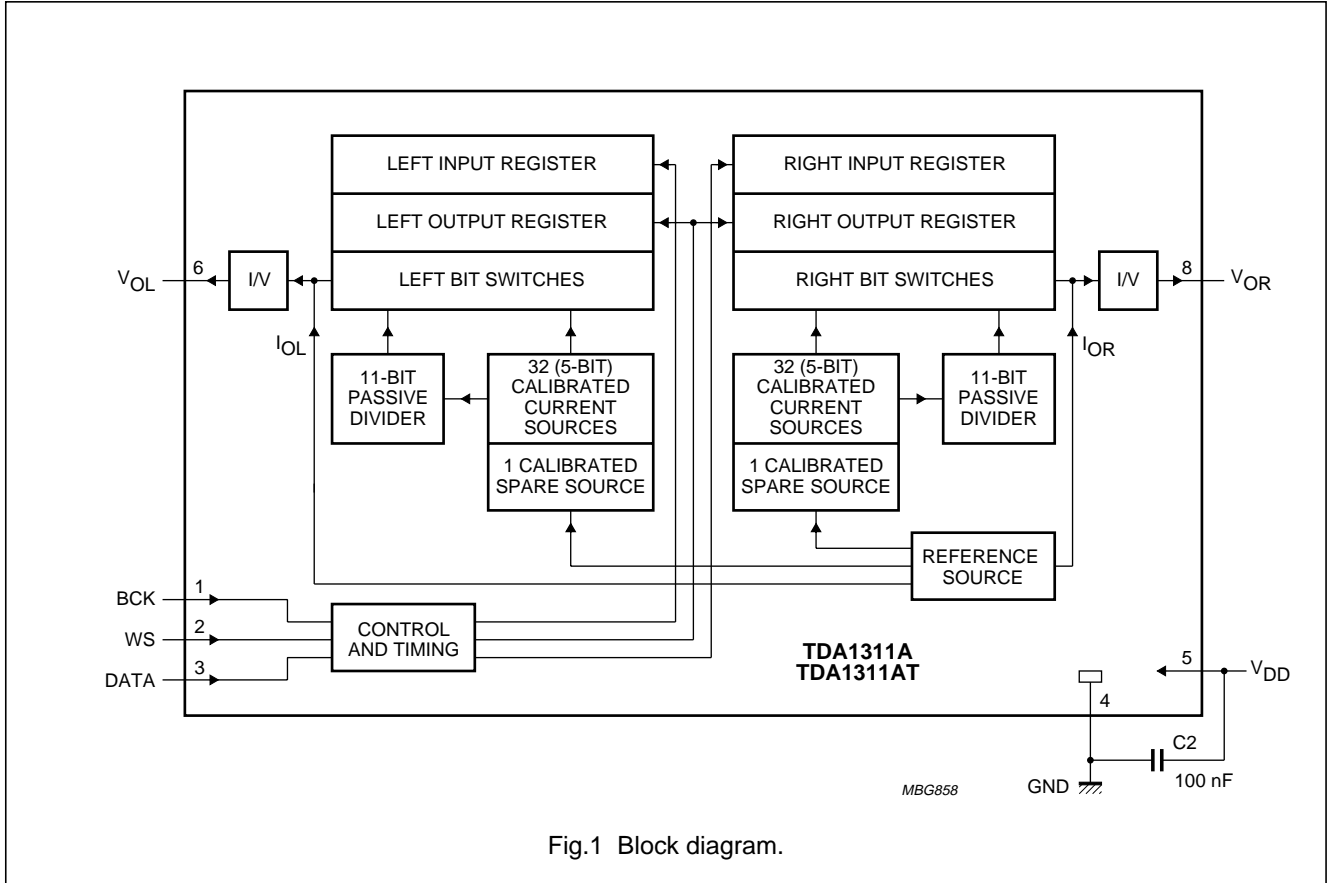

Fig.1 Block diagram.
The 32 current sources and the spare current source of the TDA1311A; AT are continuously calibrated (see Fig.1). The spare current source is included to allow continuous converter operation. The output of one calibrated source is connected to an 11-bit binary current divider consisting of 2048 transistors.
With a HIGH level on the word select input (WS), data is placed in the left input register and with a LOW level on the WS input, data is placed in the right input register (see Fig.1). The data in the input registers are simultaneously latched in the output registers which control the bit switches.
VDD = 5 V; Tamb = 25 °C; measured in Fig.1; unless otherwise specified.